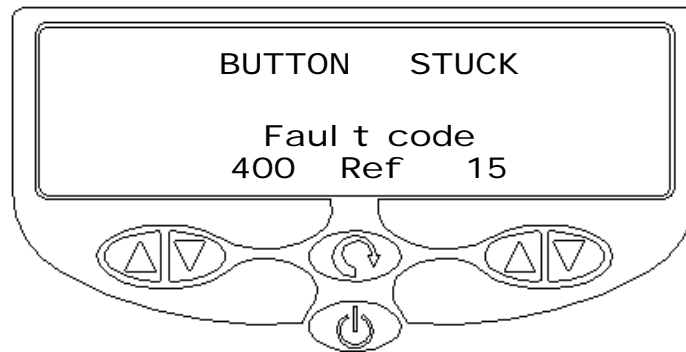

Fig 4.10 Screen for recoverable fault display
**Fault** - If a fault is detected during set-up or during use a fault code message is displayed as indicated by the "Fault Code X00 REF XX" symbol on the front panel display (Fig 4.10 Screen for recoverable fault display). Refer to Section 9, Operating Room Troubleshooting.